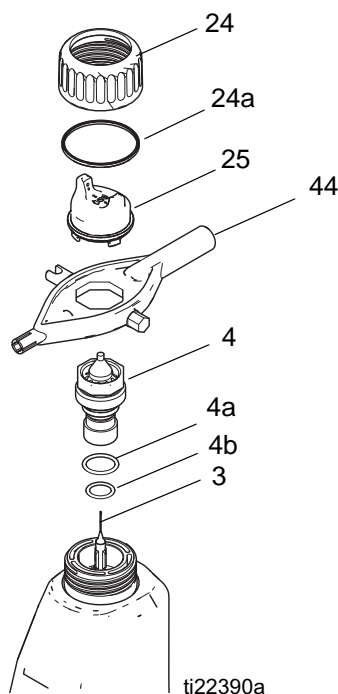

FIG. 28 . Air Cap/Nozzle Replacement
2. Remove the retaining ring (24) and air cap (25). See FIGURE 28.
3. Remove the fluid nozzle (4) assembly with the multi-tool (44).